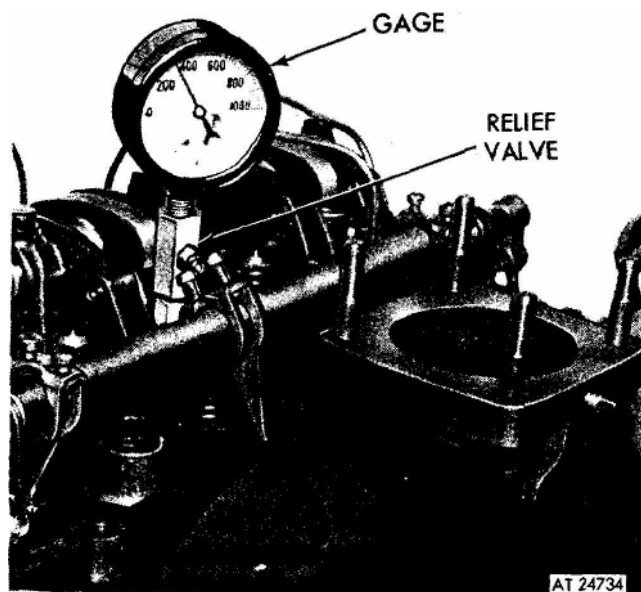

Figure 1. Checking compression pressure.
3. Remove the injector and install the adaptor and pressure *gauge* from Diagnosis Kit J 9531-01 (fig. 1).